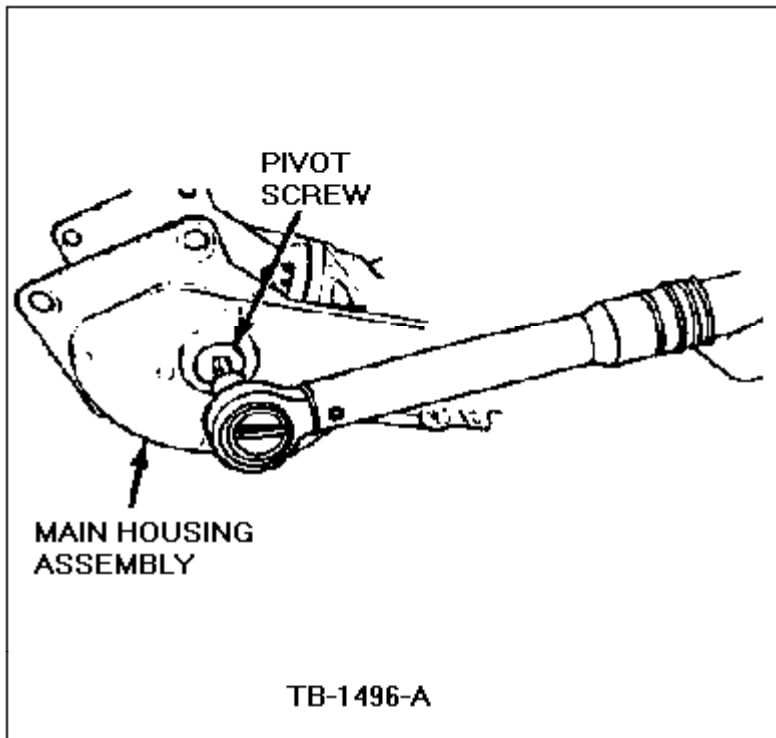

Figure 29 - Article 90-5-10
9. Re-install the two (2) pivot screws into the support bracket assembly, Figure 29. Tighten the pivot screw on the actuator cam side first to 50-60 lb.in. (6-7 N-m).